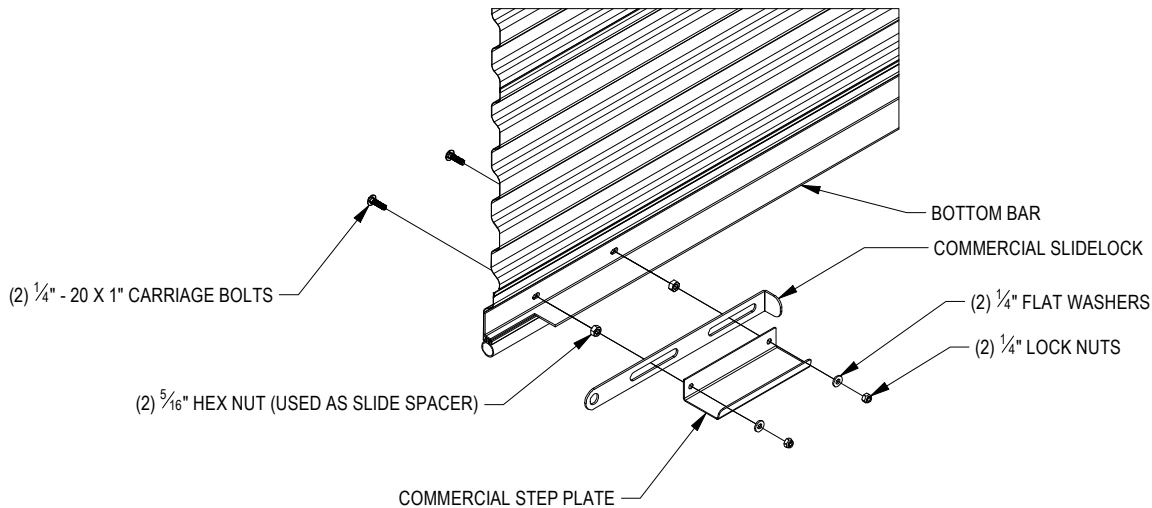

FIGURE 16:
- For a chain hoist operated door, install commercial step plates and commercial slide locks at each end on inside of bottom bar. **See Figure 16.**